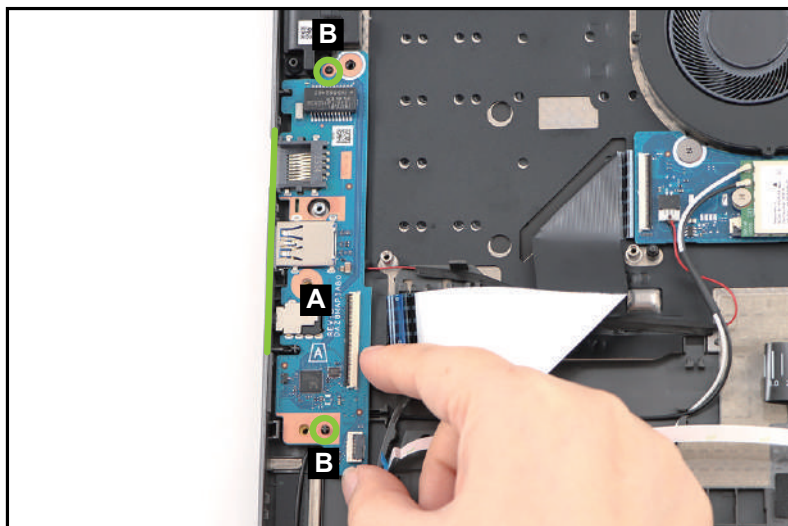

Figure 3-130. Replacing the USB Board
1. Align and slide the I/O ports on the USB board (A) into their slots on the top assembly (Figure 3-130).
2. Place the USB board onto its compartment until it is fully seated and secured to the guide pins (B) (Figure 3-130).